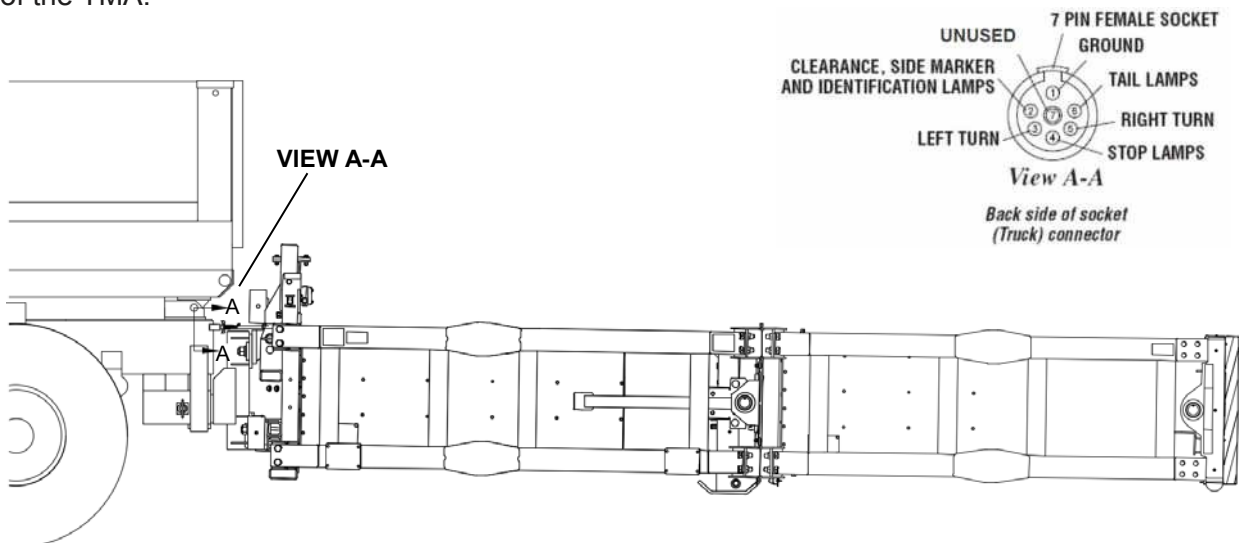

Figure 14
**For support vehicles with combined tail and clearance lights, connect a jumper between pins 2 and 6 on the backside of the male TMA plug connector (VIEW A-A and Figure 14). Connect the 7-pin plug to the socket on the truck.**